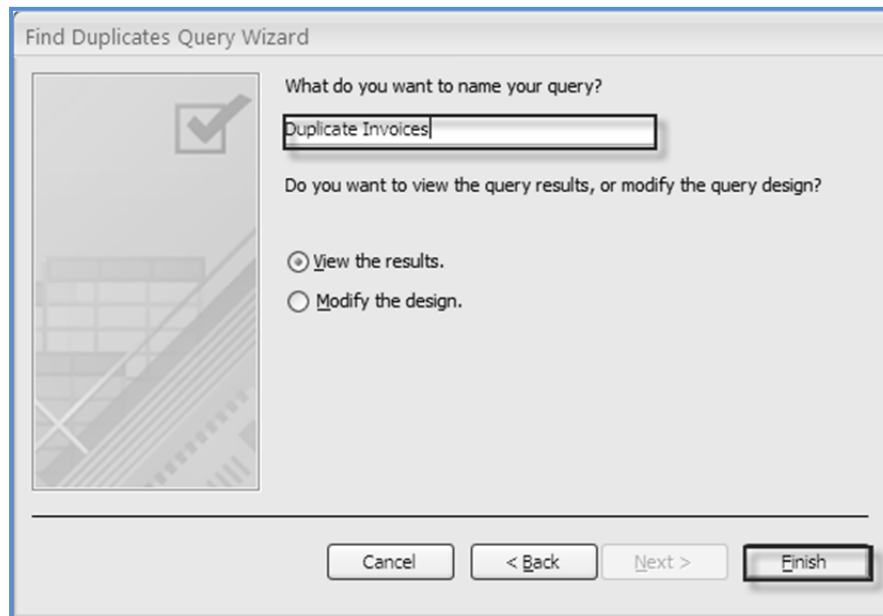

Fig. 1.2.24: Name the Query
6. Name the Query as "*Duplicate Invoices*" in the final window that appears and click **Finish**, as shown in Fig. 1.2.24.